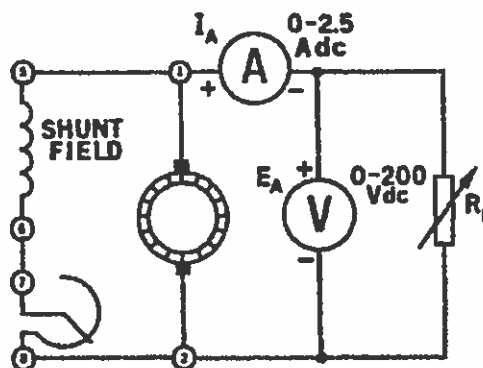

Figure 28-2.
3. a. Using your DC Motor/Generator, DC Voltmeter/Ammeter and Resistive Load, connect the circuit shown in Figure 28-2.